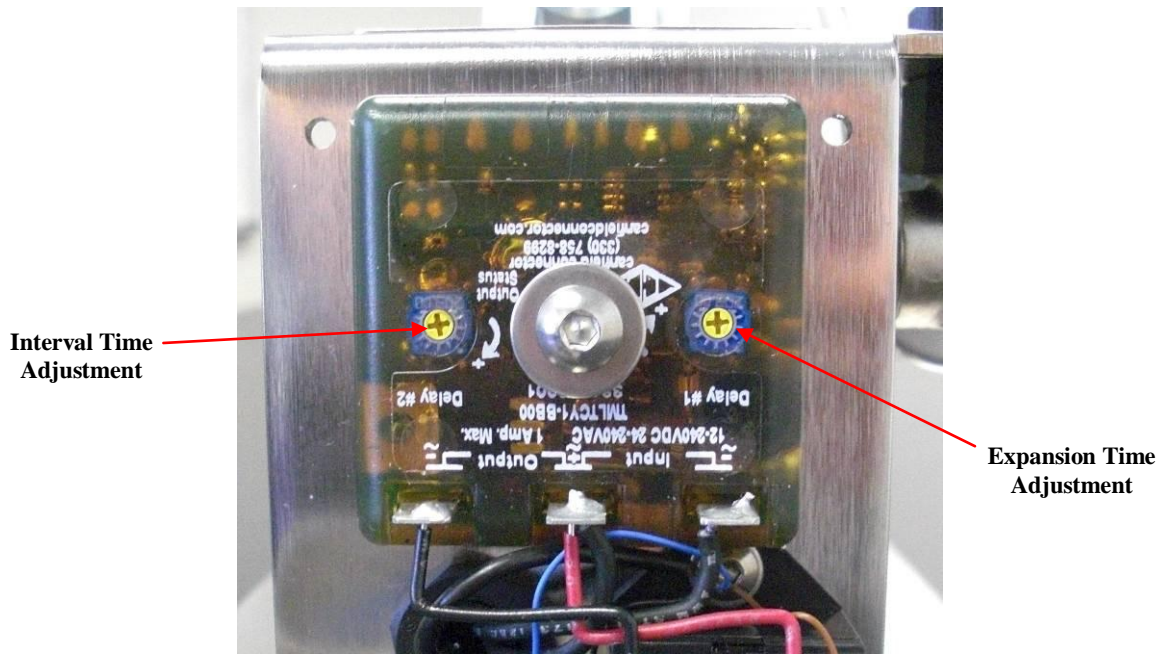

Figure 5: Time Delay Relay and Time Adjustments
- Figure 5 below shows the CRD202 with the rear cover removed, as well as the location of both time delay adjustments on the time delay relay: